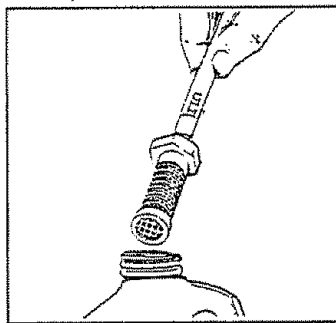

FIG. 14
- Place small filter of the clear, detergent syphoning tube into the detergent container (Fig. 14).